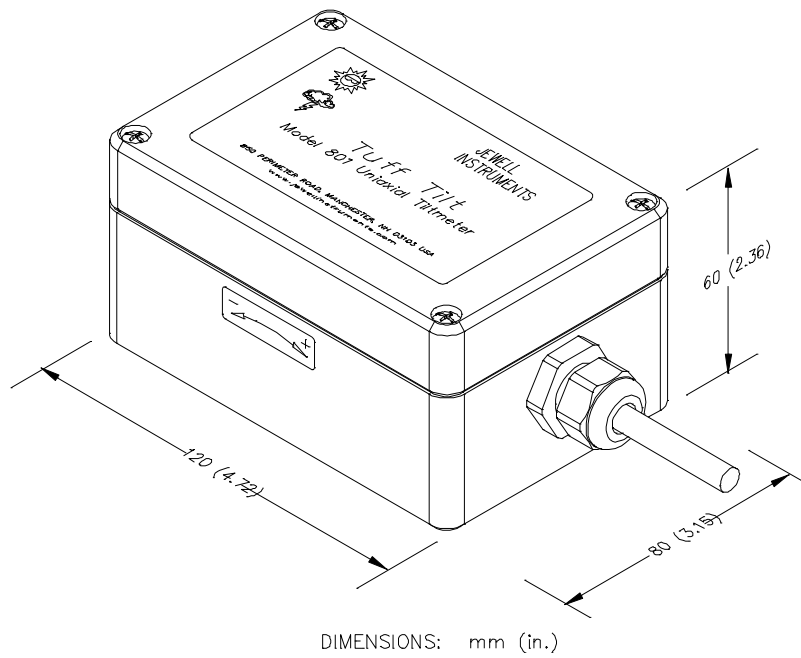

Figure 1. Model 801 Tiltmeter - Longitudinal Tilt Style
Model 801 tiltmeters are available in high-gain ($\pm 0.5^\circ$ range), standard ($\pm 3^\circ$ range) and wide-angle ($\pm 50^\circ$ range) versions. Each of these versions is produced in both longitudinal, transverse (Figures 1 and 2), and biaxial tilt styles. Range and tilt style are specified when ordering.
3. Refer to the (+) and (-) tilt directions in Figure 1 or 2 (also shown on a label on your tiltmeter). With the tiltmeter in your hands, rotate it to verify the sign (polarity) of the outputs. A rotation in the (+) direction should make the voltage output become more positive.